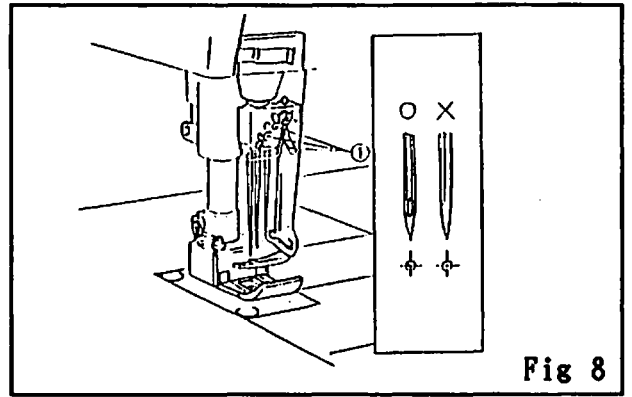

Fig 8
2. Loosen screw (1), then pull out the used needles. Insert the new needles into the holder holes as far as they can go, and let the long groove of the needle face you. (Fig 8)
3. Fasten screw (1).